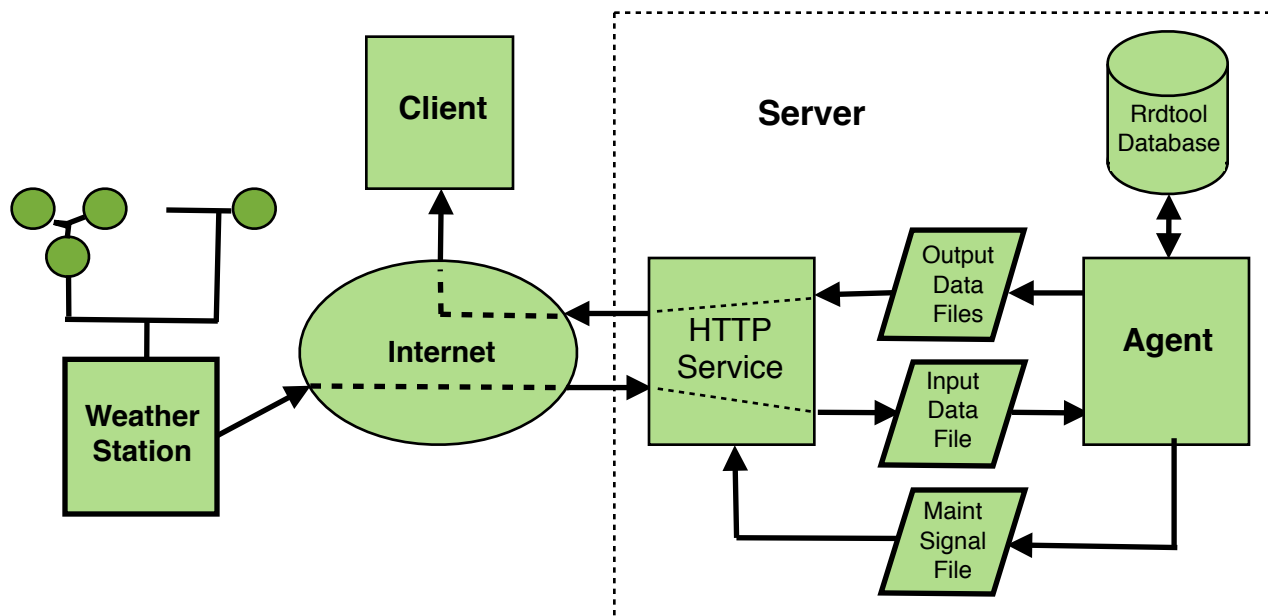

Figure 4. Block diagram of server software components showing data i/o, agent process, HTTP service, and database elements.
Referring to figure 4, the server software consists essentially of two components: an HTTP server component and an agent component. The HTTP server component includes a PHP script along with HTML documents containing embedded Javascript. The PHP script processes HTTP requests sent from the weather station. The agent, a Python script, manages data conversion and re-formatting, updating a database, and routine weather station maintenance.
After formatting the weather data, the agent writes the data to the *Output Data File* for use by HTML documents. When a client browser requests the weather HTML document, Javascript embedded in the document reads the output data file and displays this data in an HTML document. Although not shown in figure 4, the agent, as mentioned earlier, generates graphic charts for display in HTML documents. The graphic charts are stored as image files which Javascript in the HTML documents can display in the weather web page.
4. The input and output data files (see figure 4) get overwritten frequently; similarly the graphic image files get overwritten frequently. On SD card systems, such as a Raspberry Pi, it is inadvisable to do frequent writes to any file system mounted on the SD card. To use the ram based temporary file system (tmpfs) to store these files, continue with step 5. Otherwise, to write dynamic content to the disk drive, continue with step 7.